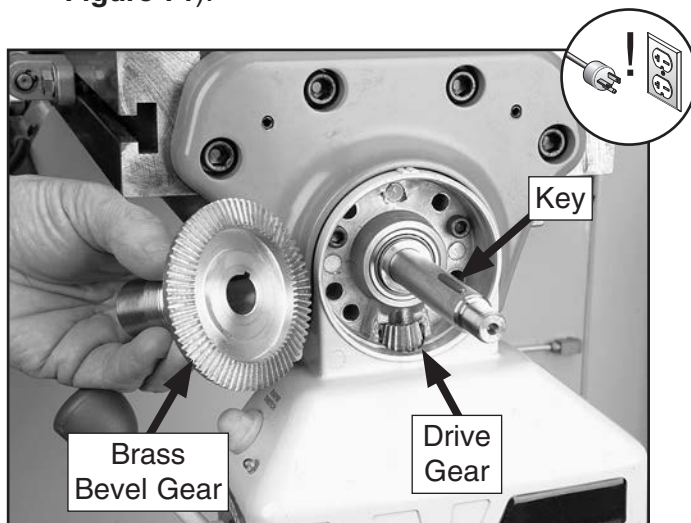

Figure 71. Power feed gears and key.
4. Remove brass bevel gear from leadscrew, then remove leadscrew alignment key (see **Figure 71**).